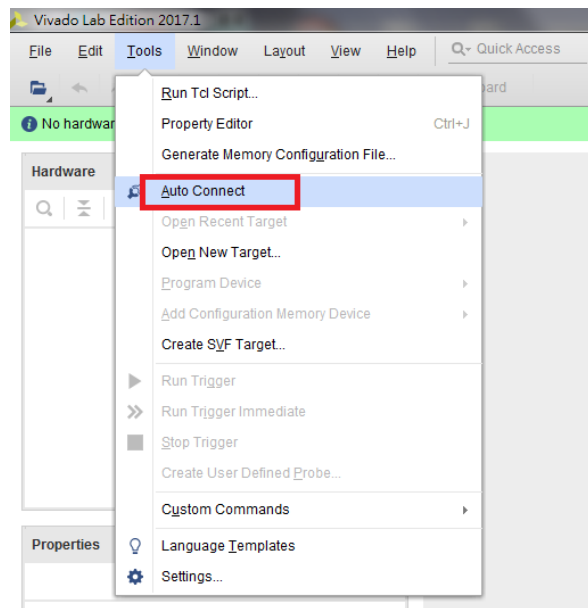

Figure 9. Auto Connect
- ❖ Click on “Tools→ Auto Connect” as Figure 9.